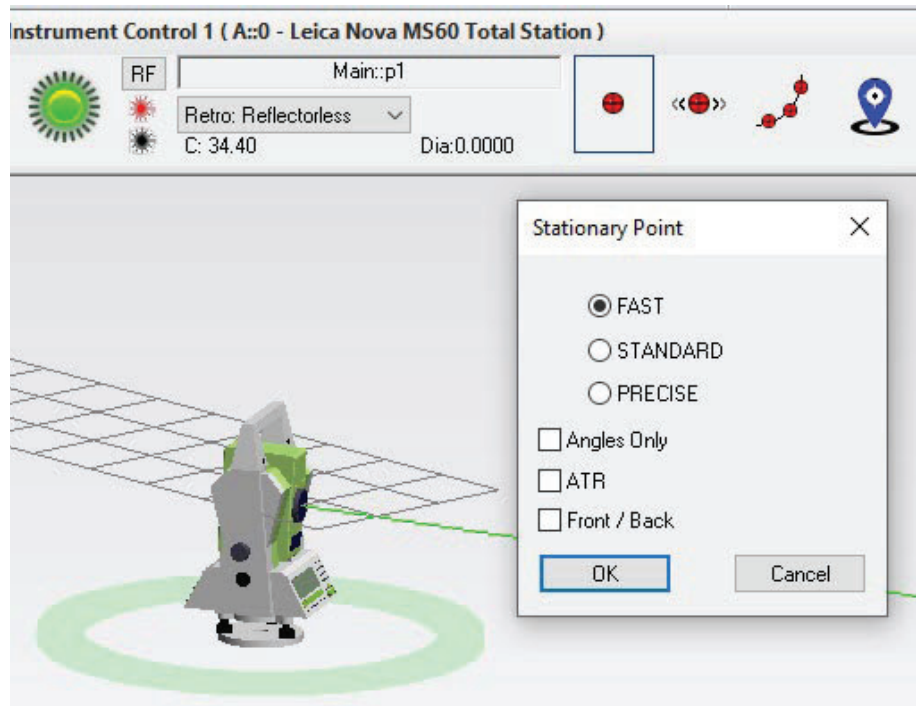

Figure 5-112. Stationary Measurement Modes
Any measurement profile can be set to use these modes but basic controls are easily apparent when using the instrument toolbar (Figure 5-112).
-  **Single Point.** Right-click on any of the single point measurement modes to access point measurement settings (see Figure 5-112). The same options are also available for Stable point measurements.